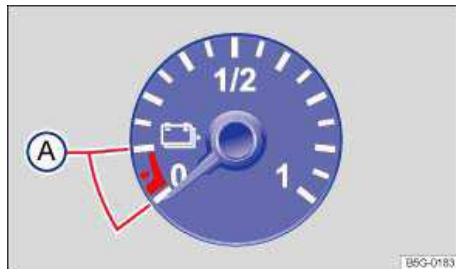

Fig. 133 In the instrument cluster: Charge level display for high-voltage battery
-	The reserve range has been reached ⇒ fig. 133 . Charge the high-voltage battery as soon as possible
Battery drained! Speed restricted.	The vehicle is driving in the reserve range ⇒ fig. 133 . Charge the high-voltage battery as soon as possible
The current charge level of the high-voltage battery is displayed in the instrument cluster ⇒ fig. 133.